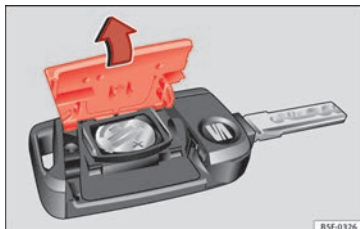

Fig. 118 Vehicle key: opening the battery compartment
- Remove the cover from the back of the vehicle key » **Fig. 118** in the direction of the arrow » ⓘ.
- Fit the cover as shown » **Fig. 118**, pressing it onto the vehicle key casing in the opposite direction to that shown by the arrow until it clicks into place.